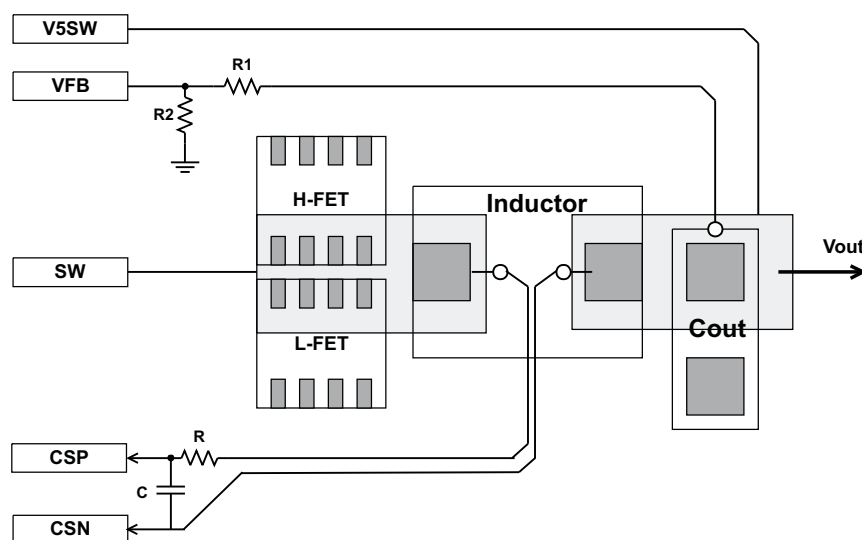

图 51. Sensing Trace Routings
- Use separate traces for; see 图 51